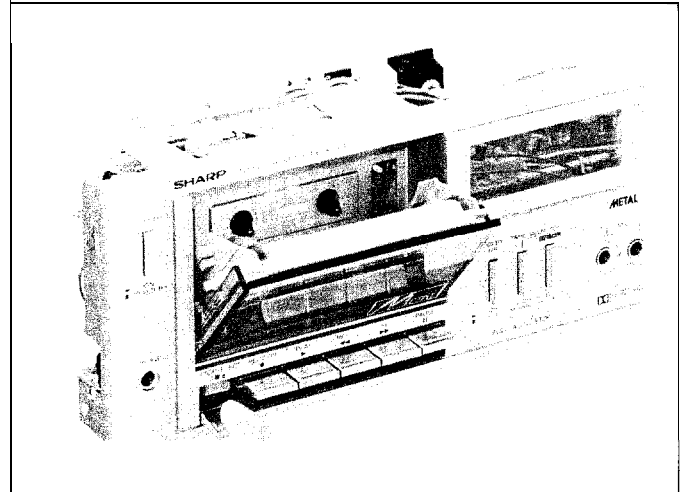

Figure 6-3
3. Finally push the stop/eject key to open the cassette holder, and remove the mechanism block. (Refer to Figure 6-3.)